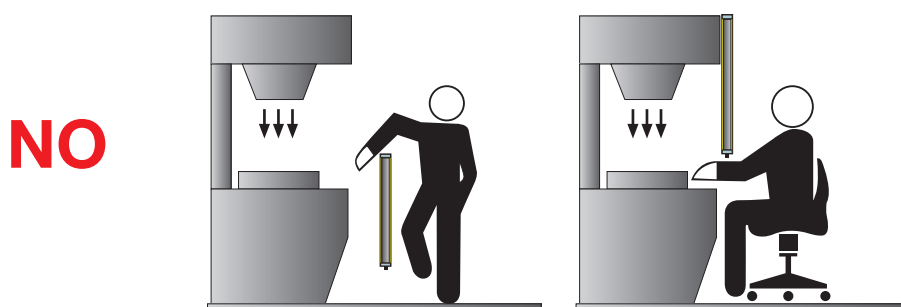
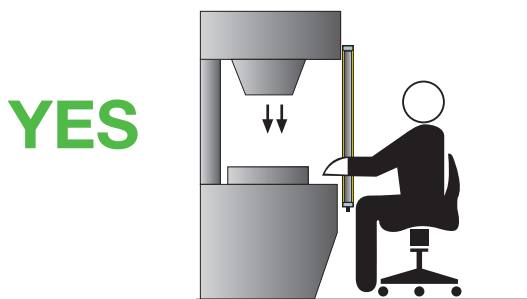

Fig.5a
Fig.5b
**⚠ Fig. 5a shows some examples of possible access to the machine from the top and the bottom sides. These situations may be very dangerous and so the installation of the safety light curtain at sufficient height in order to completely cover the access to the dangerous area (Fig.5b) becomes necessary.**